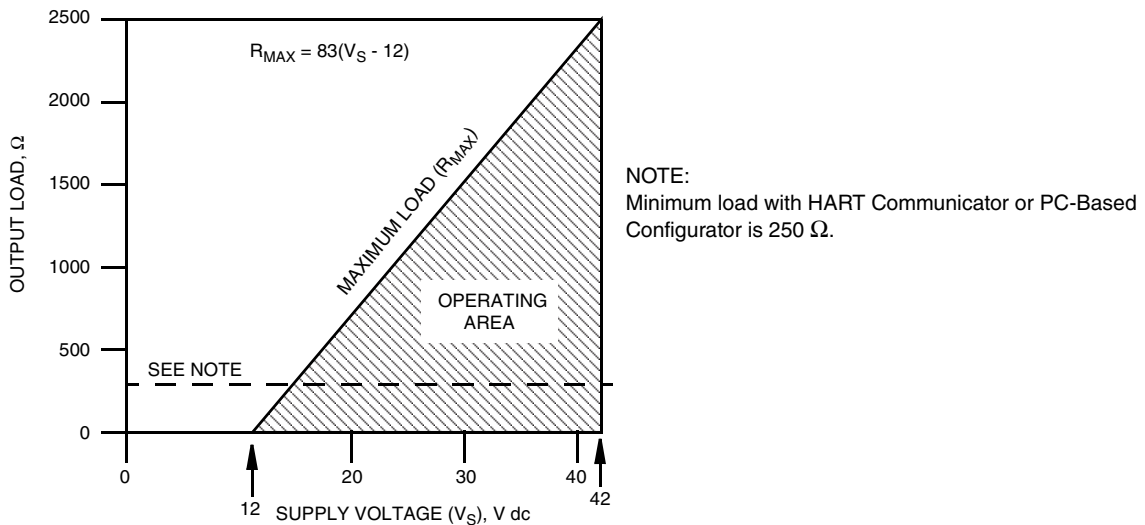

Figure 14. Voltage and Load Limits
When wiring a transmitter with 4 to 20 mA output signal, the supply voltage and loop load must be within specified limits. The supply voltage vs. output load relationship is shown in Figure 14. Any combination of supply voltage and loop load resistance in the shaded area can be used. To determine the loop load resistance (transmitter output load), add the series resistance of each component in the loop, excluding the transmitter.
1. Connect the transmitter to a 24 V dc power supply (see Figure 14 for allowable power supply voltage and output load limitations).